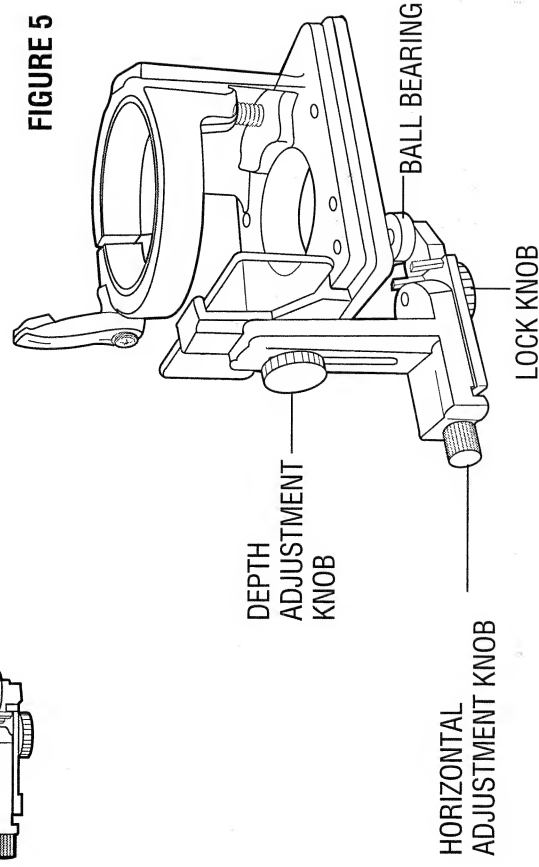

FIGURE 6
1. Loosen base by turning base locking arm counterclockwise. (See FIGURE 6)
1. Loosen the base locking knob (See FIGURE 6)
1. (See FIGURE 6) Loosen the two tilt locking screws which hold the tilt base in position and adjust to the desired angle using index marking.